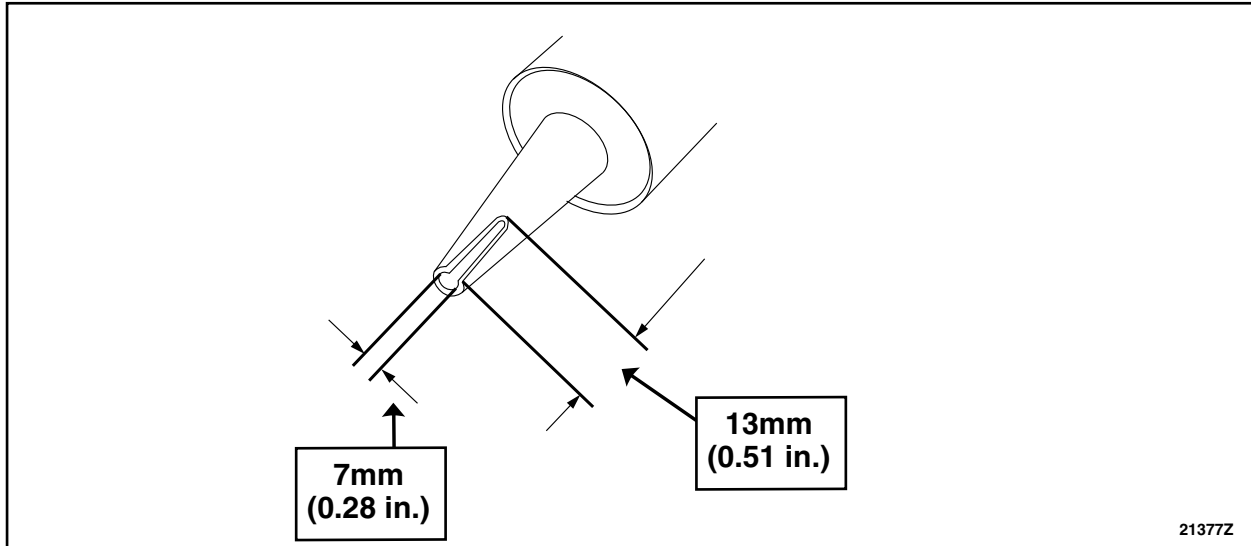

FIGURE 4
4. Cut the urethane adhesive applicator tip in triangular shape, to specification. See Figure 4.